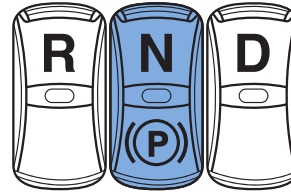

Figure 5 - Drive selector and
- Press the (optional) Parking Brake button on the dashboard (**Figure 5**).